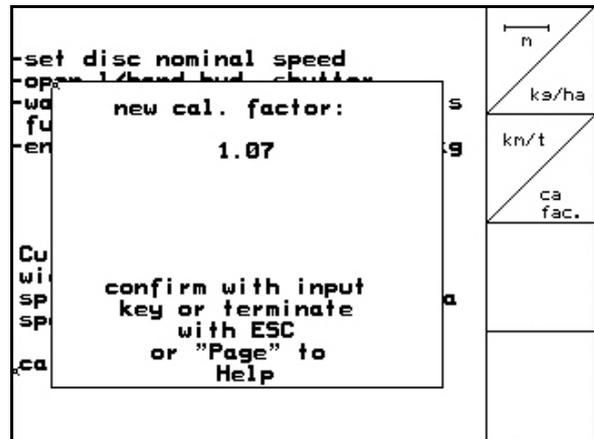

Fig. 34
- The new calibration factor will be displayed (Fig. 34).